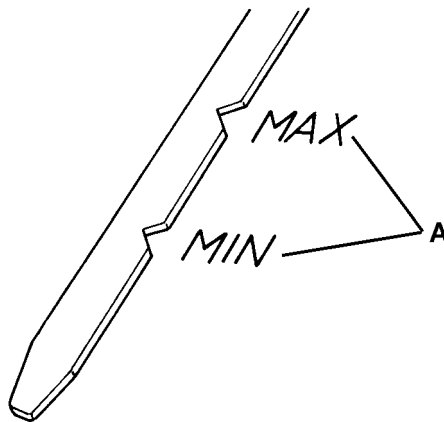

Figure 27
2. Engage the parking brake with the pedal (84) and the lever (76).
3. Turn the ignition key (69) to "0".
4. Open the hood (23) and secure it with the support rod (55).
5. Remove the screws (45), then disengage the fasteners (46) to remove the engine guard (44).
6. Remove the engine oil level dipstick (34) and clean it with a clean cloth. Insert the dipstick (34), take it out after a few seconds, and check that the oil level is between the MIN (minimum level) and MAX (maximum level) marks (A, Fig. 27).
14. Install the filler plug (35).
15. Insert the dipstick (34), take it out after a few seconds, and check that the oil level is between the MIN (minimum level) and MAX (maximum level) marks (A, Fig. 27). If necessary top up. Insert the dipstick (34).